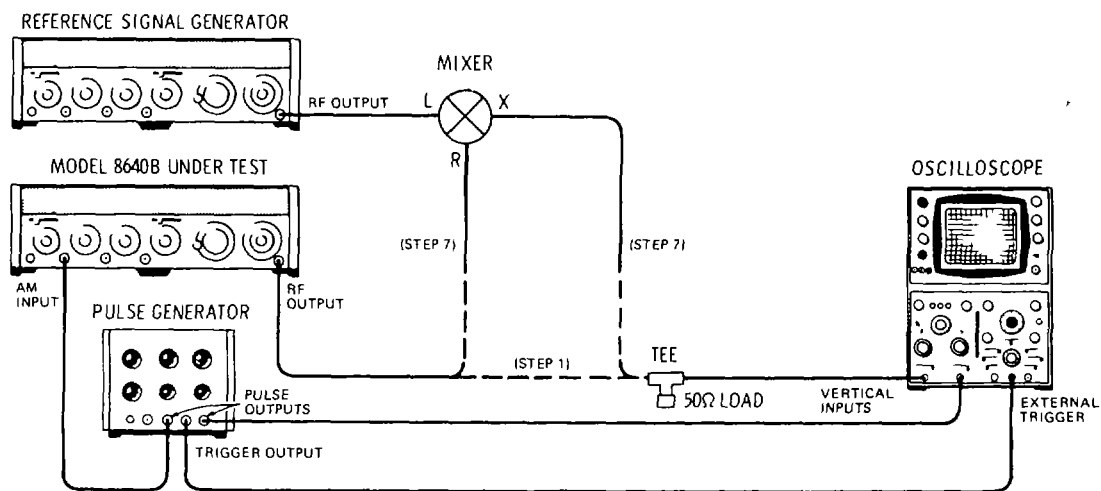

Figure 4-22. Pulse Modulation Test Setup
- 1. Connect equipment as shown in Figure 4-22, with oscilloscope connected directly to test generator's RF OUTPUT, after setting test Signal Generator's controls as follows: